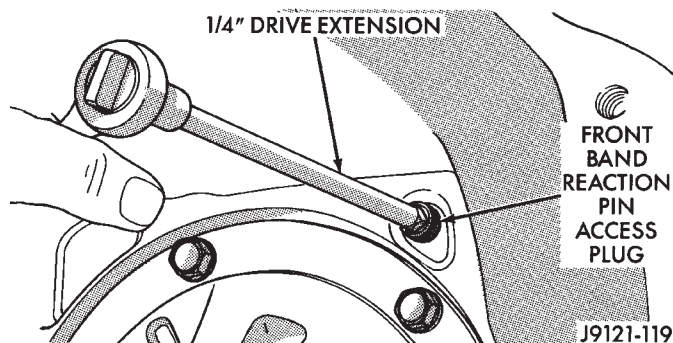

Fig. 9 Removing/Installing Front Band Pivot Pin Access Plug
(13) Remove front band pivot pin access plug (Fig. 9). Plug is accessible through converter housing. Use 1/4 inch drive extension to remove plug as shown.